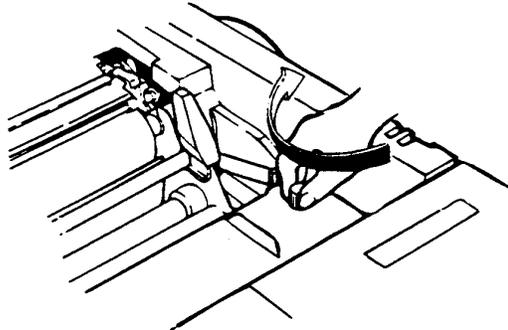
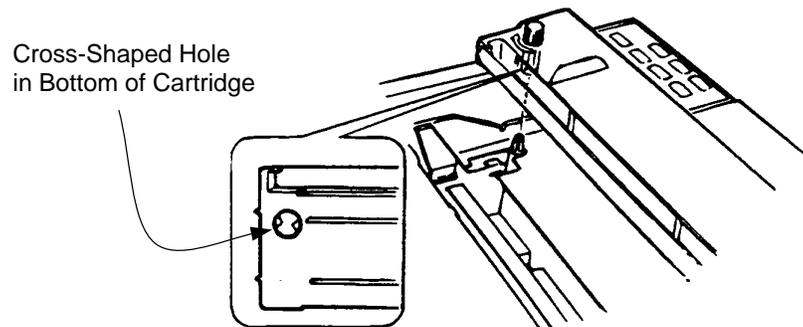

Figure 15-2. Removing Ribbon Slack
Figure 15-3. Aligning Ribbon Drive Blade
If the cartridge does not properly seat on the right side, turn the ribbon advance knob (Figure 15-2) until the small black ribbon drive blade slides into the cross-shaped hole in the bottom of the cartridge. See Figure 15-3.
10. Turn the ribbon advance knob clockwise, as shown by the curved arrow on the cartridge (Figure 15-2), until all slack in the ribbon is removed and the ribbon aligns itself in the striking area between the print head and the shiny vertical plate next to the platen. The ribbon should also align itself in the notches in the left and right main ribbon cartridge guides. If not, adjust accordingly.